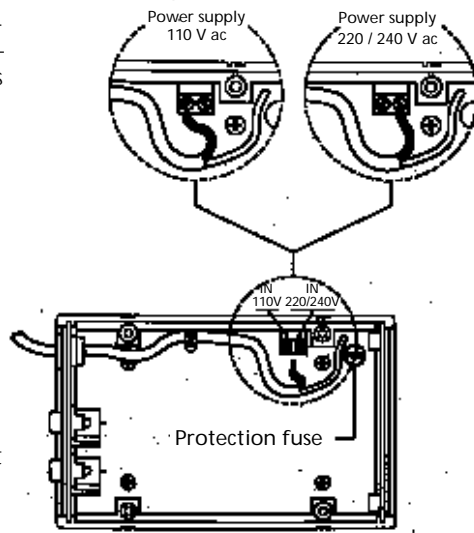

Fig. 2
- loosen the screw of the terminal marked "IN 220 / 240 V" (Fig.2) and connect the supply cable to the "IN 110 V" terminal instead. Make sure that the cable is now securely connected to the "IN 100 V" terminal, and that there are no loose wires that could cause a short between the two terminals.